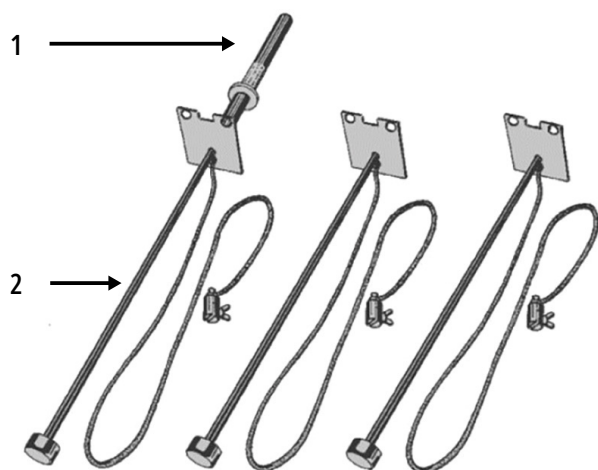

Figure 4-10: Earthing equipment
1. A single operating rod, see number 1 figure 4-10.
2. Three earthing pins with earth contact and earthing cable (25 mm2) with connecting clamp, see number 2 figure 4-10.